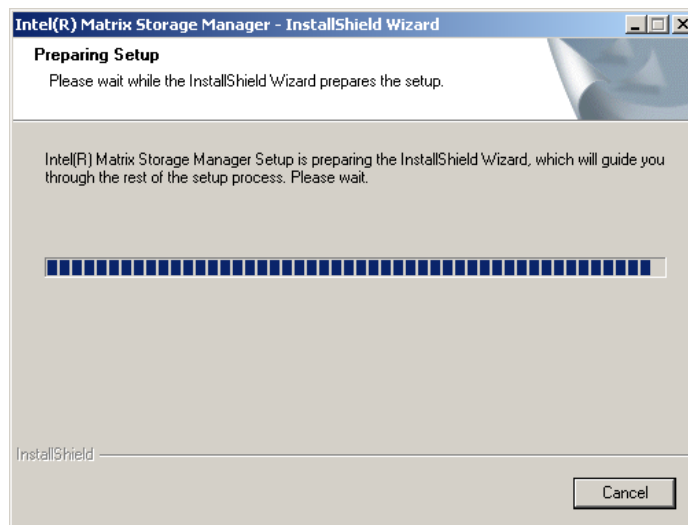

Figure 7-35: InstallShield Wizard Setup Screen
Step 5: Figure 7-35 shows the InstallShield Wizard preparing to guide the user through the rest of the process.